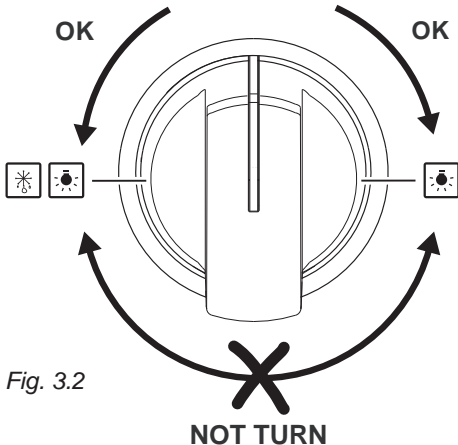

Fig. 3.2
The oven light and the fan motor are controlled by a switch knob on the control panel (fig. 3.2). To light up the oven lamp turn the knob counterclockwise to position.
**IMPORTANT NOTE:** during ignition of the oven burner the fan motor shall be switched off (light and fan control knob in I Off position - fig. 3.2).
After lighting the oven burner switch on the fan motor by turning the **LIGHT & FAN** control knob (fig. 3.2) on   position.
With the oven burner control knob in **I Off** position turn the **LIGHT & FAN** control knob (fig. 3.2) on   position.